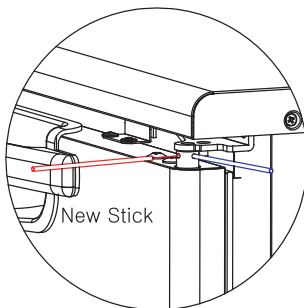

Fig 9-43
5. If tension is still present even after completing steps 1 through 4, repeat the procedure by using the steel stick. (Fig 9-43)